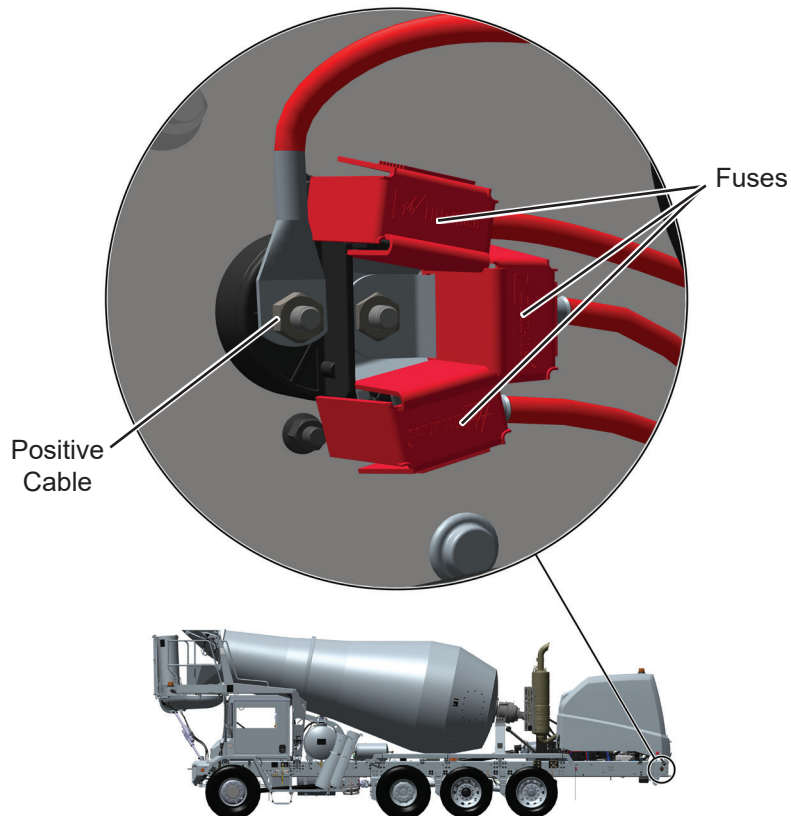

Figure 3. Disconnect Switch Connections
12. Loosen and remove nut securing the single positive cable to battery disconnect switch. See Figure 3. Nut will not be reused.
13. Loosen and remove nut securing the three fuse connectors to the battery disconnect switch. See Figure 3. Nut will not be reused.